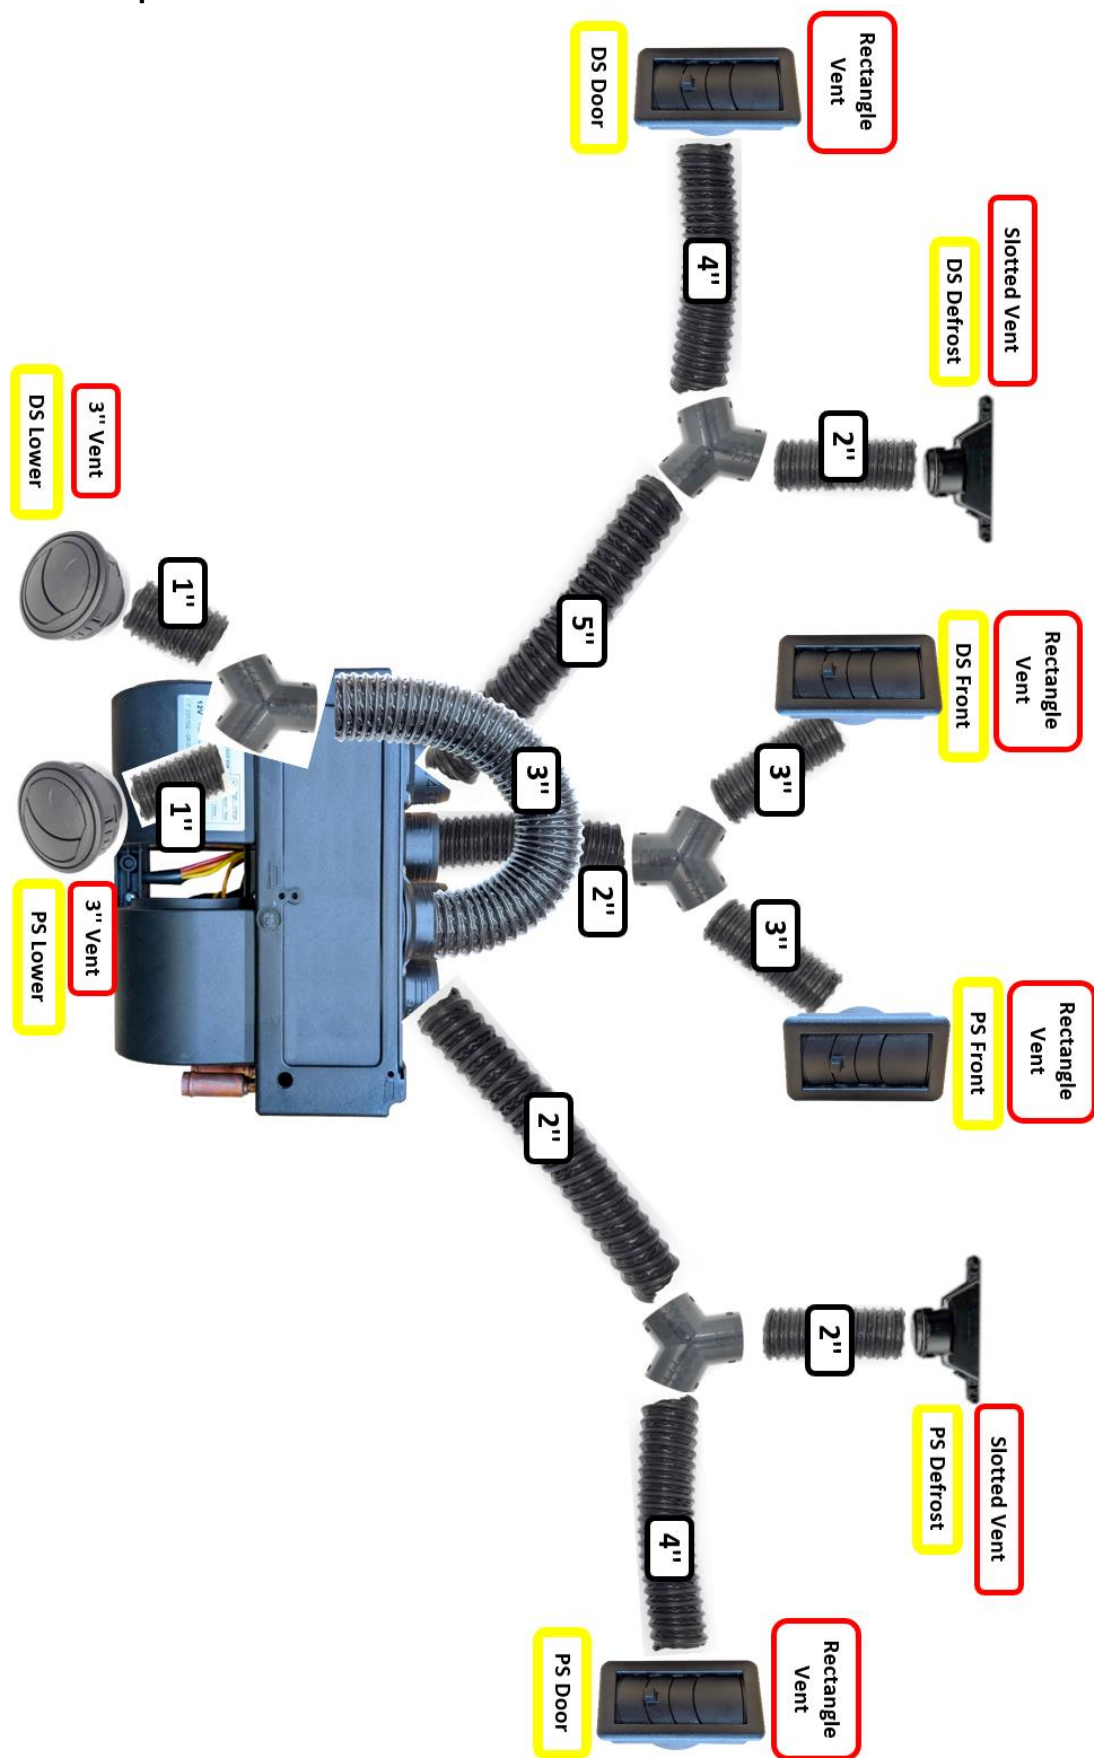

Figure 5
- a. Using Figure 5, cut and assemble the 2" Duct Hoses and Y Fittings using zip ties to secure the joints. Route each segment of hose to it's designated locations. Leave the ends of the hose dangle in the center console area.